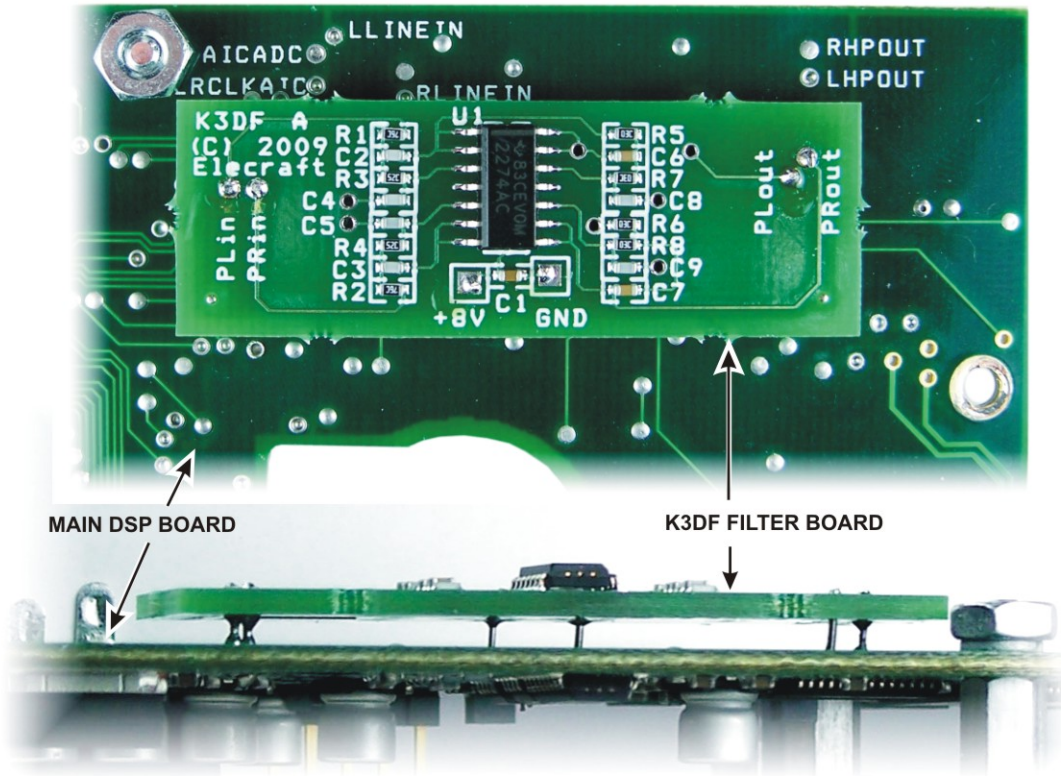

Figure 14. K3DF Filter Board Installed.
The filter is installed on the back of the K3's main DSP board. Six short wires hold it in place and provide the electrical interconnections. Two trace cuts are required. The installed board is shown in Figure 14 on page 8.
- Remove the spacer and trim the leads flush with the top of the K3DF filter board. The finished installation is shown in Figure 14.